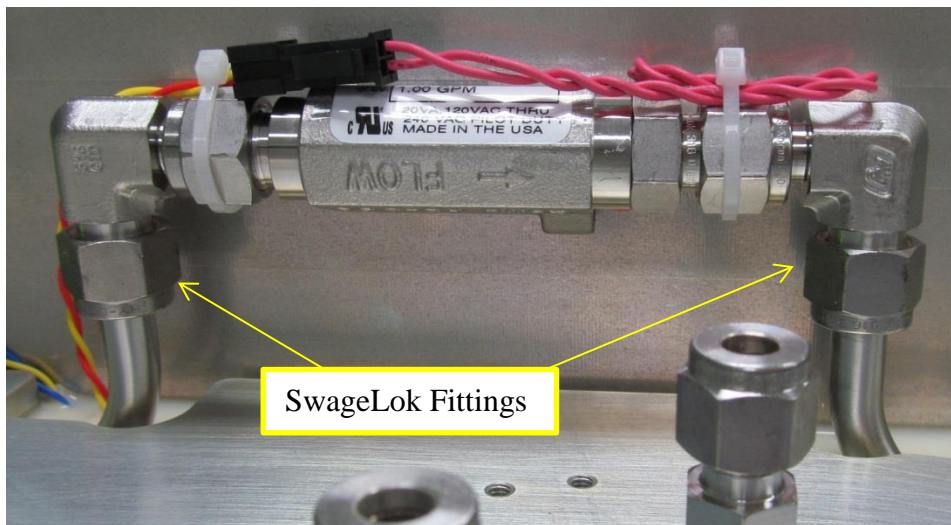

Figure 2-5: Flow Switch Assembly (177594)
3. Loosen the SwageLok fittings highlighted in **Figure 2-5**. Remove HR mirror if needed.